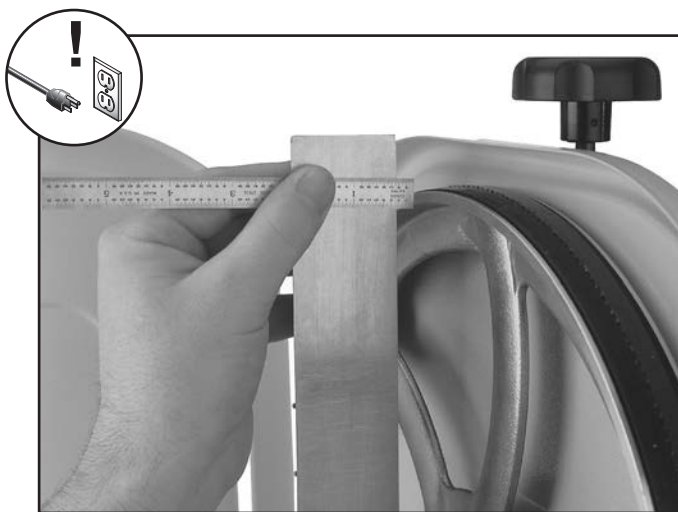

Figure 65. Measuring the distance to shim the wheel to be coplanar.
3. With the straightedge touching both rims of the wheel that does not need to be adjusted, measure the distance away from the other wheel with a fine ruler, as shown in **Figure 65**. The distance measured with the ruler is the distance this wheel must be shimmed.